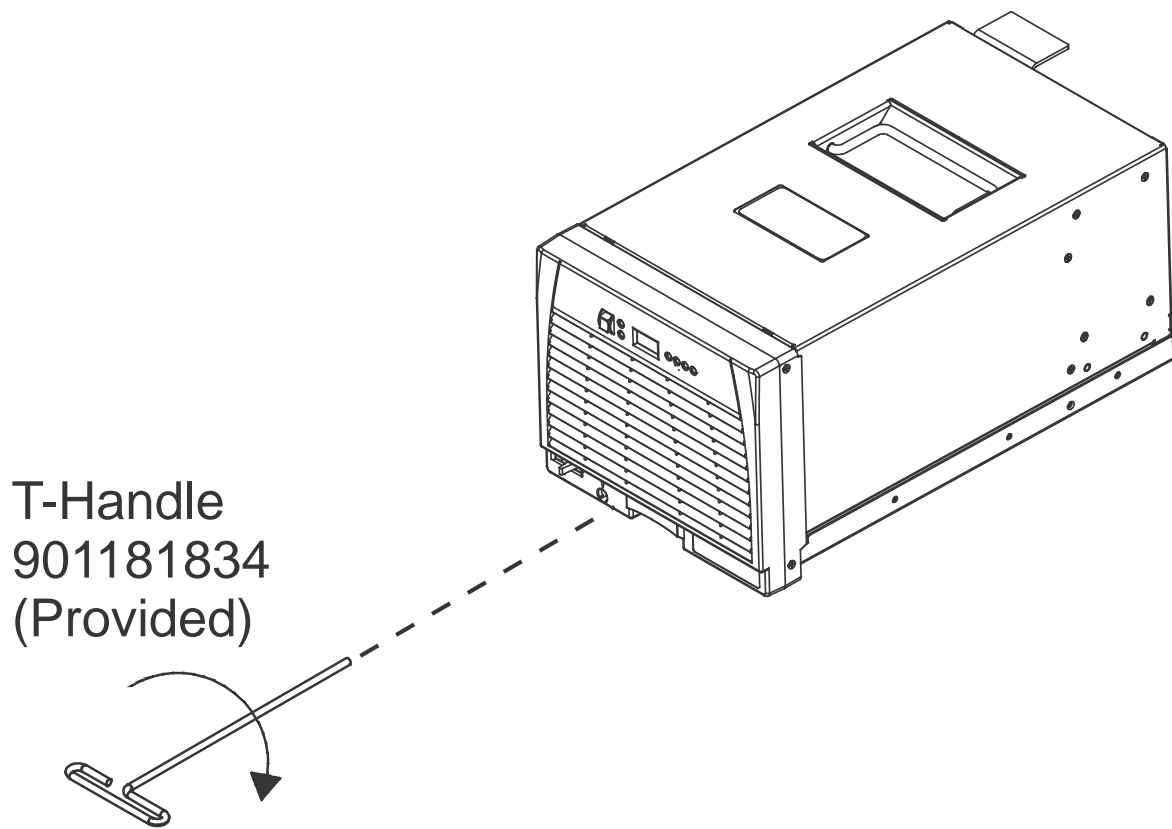

Figure 6-2 Securing the rectifier in the rectifier slot
7.	Using the Allen-head wrench (T-handle) secure the rectifier to the shelf. Note: It is extremely important to fully seat the rectifier. See Fig 6-2